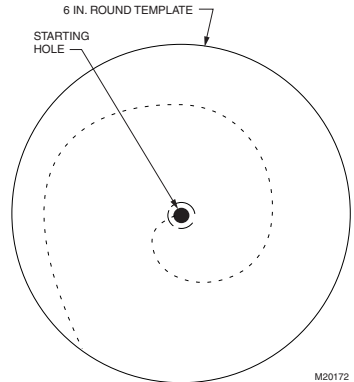

Fig. 5. Cutting bypass opening.
10. Carefully cut the opening for a 6 in. (155 mm) starter collar. See Fig. 5. Use a drill, punch or awl to start the cut in the middle of the circle. Cut in an outward spiral to assist in controlling the cut.